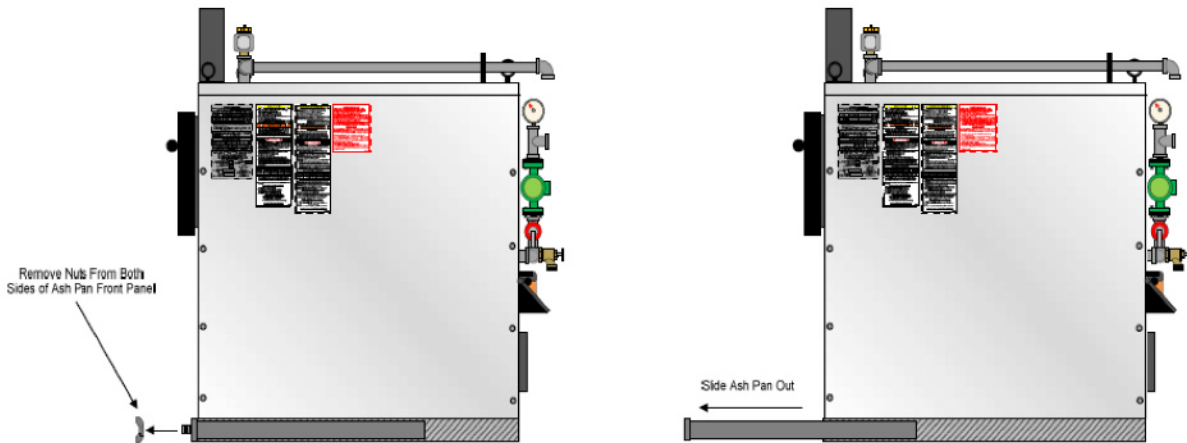

Figure 1 – Access to the Ash Pan
For routine ash removal, slide out the ash pan on the bottom of the furnace and remove ashes and place them in a container as described above. (See Figure 1 on how to open Ash Pan)
**Figure 1:** Wood should be loaded into the furnace in the direction shown in this figure. This is the proper loading configuration which will not damage the refractory and produces the most efficient burning results.